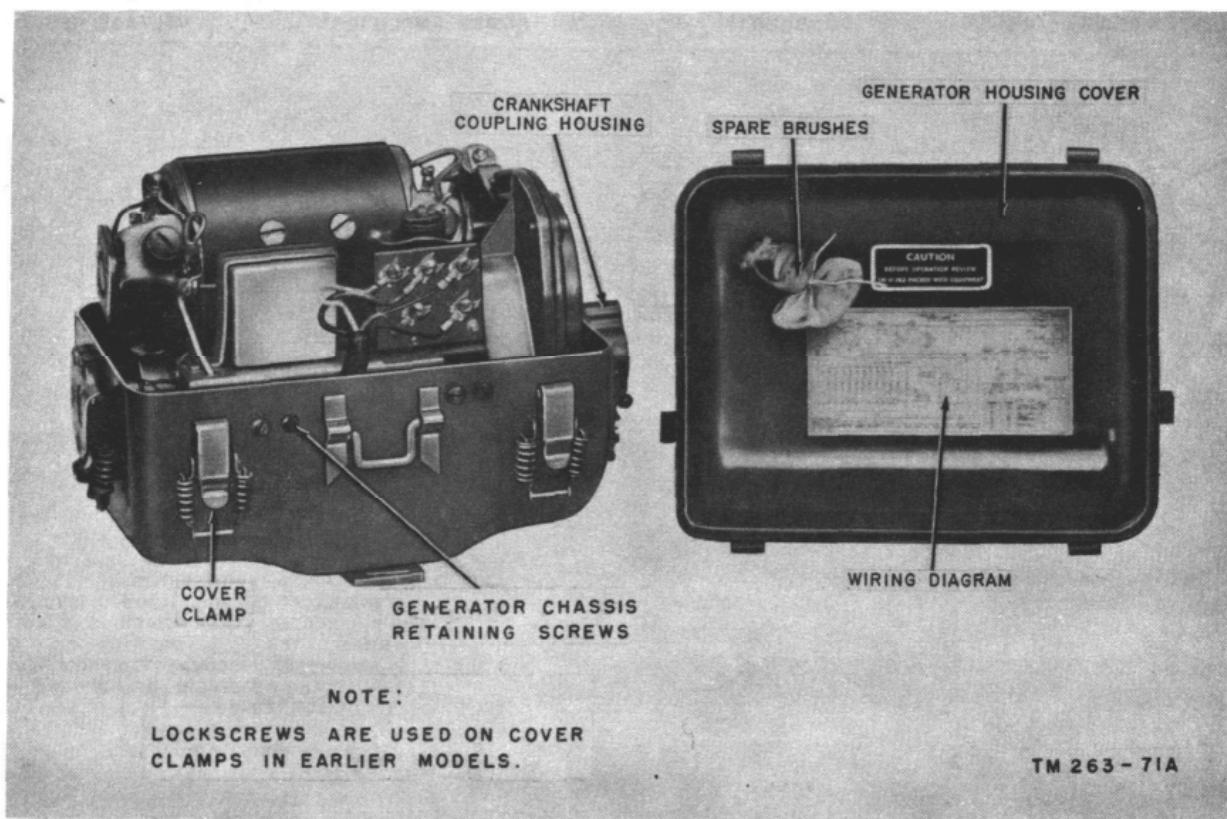
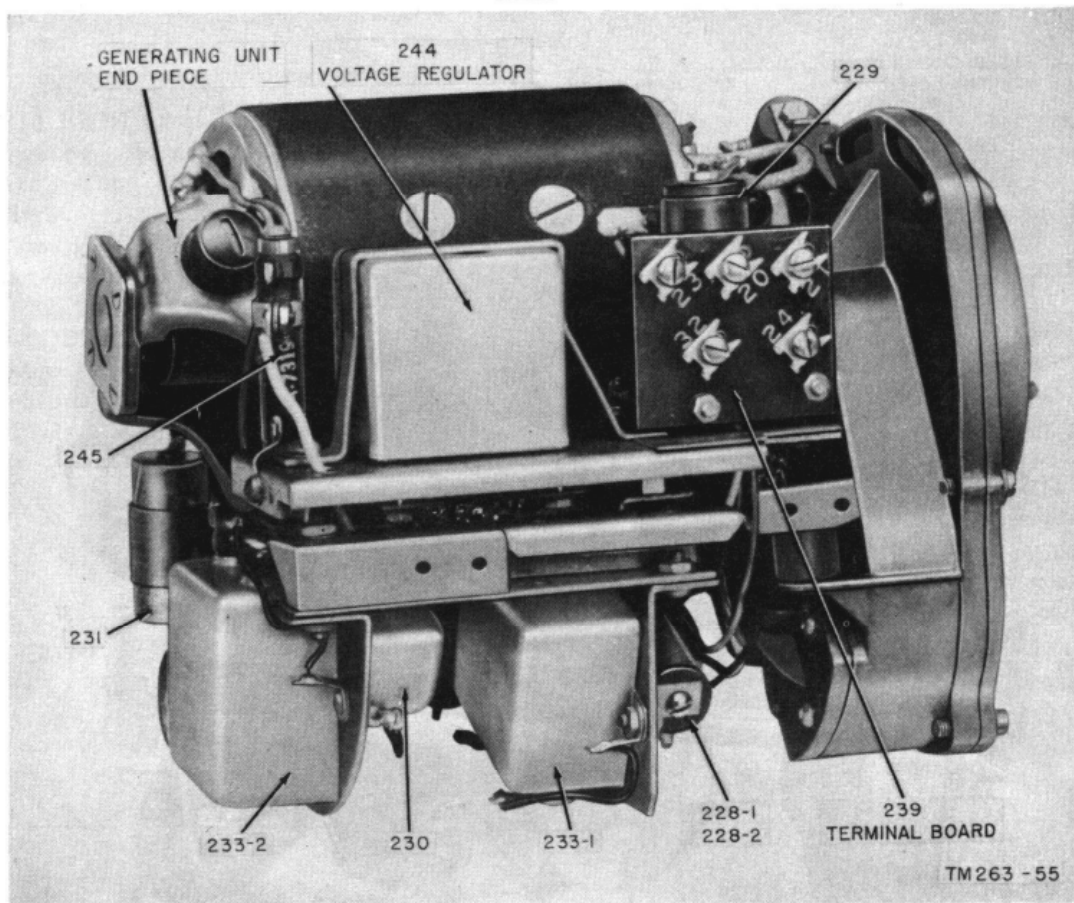

Figure 126. Generator GN-58-(\*), top cover removed.
Figure 128. Generator GN-58-A, parts location (front).
ing the cover clamps, the top of the housing should come off easily when lifted straight up. Figure 126 shows Generator GN-58-A with the top cover removed. Next, loosen the screw which holds the terminal strip insulating cover in front of panel board 239 (fig. 128). This will expose the terminal board, and all voltage measurements can be made at full or no load,
h. Remove the terminal strip insulating cover from in front of panel board 239, exposing the spade lug connections on the board (fig. 126).
j. Remove the chassis retaining screws around the top of the lower half of the housing (fig. 126).